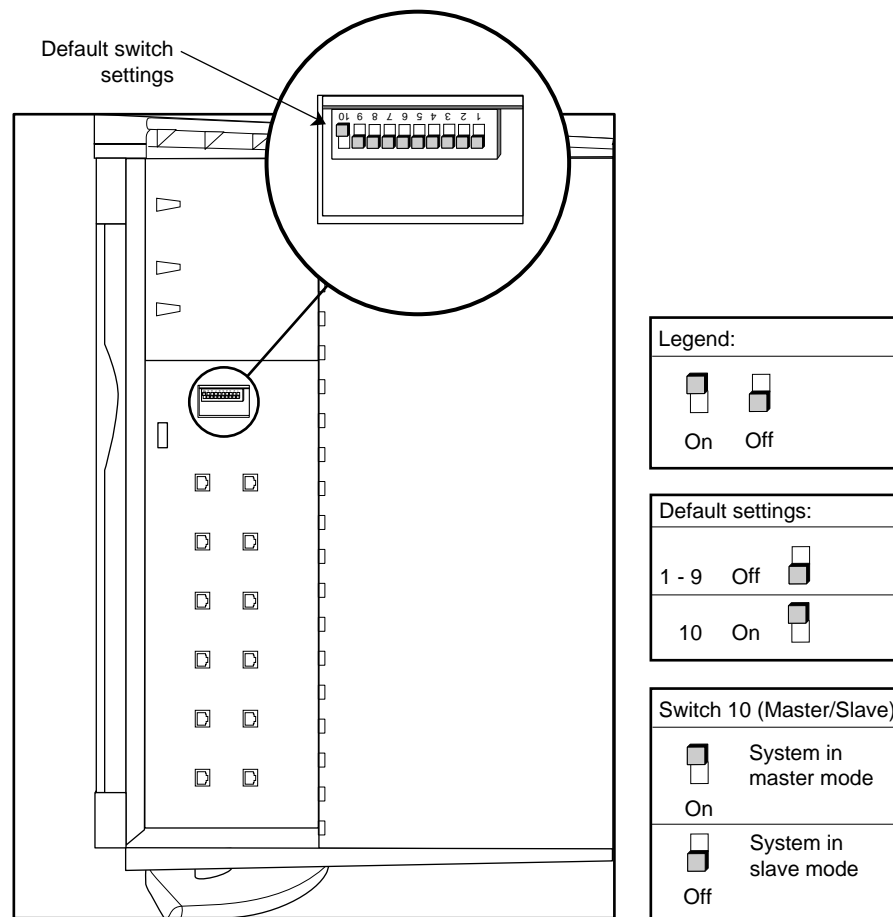

Figure 2-21 MSC DIP Switch Location and Settings
3. Locate the MSC DIP switch, as shown in Figure 2-21.
4. Using a ballpoint pen or similar object, change switch 10 to “off” to place this module in slave mode. See Figure 2-21.